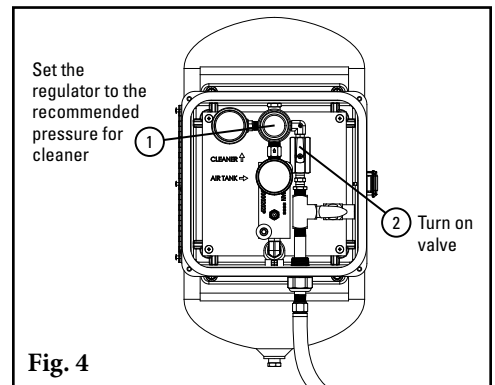

Fig. 4
4. **Adjust the regulator air pressure to the desired PSI setting for the cleaner or the pressure noted before installation.** Turn on the cleaner valve and observe the air tension system pressurize and move the cleaner into the running position. Close door/latch and secure as necessary (Fig. 4).